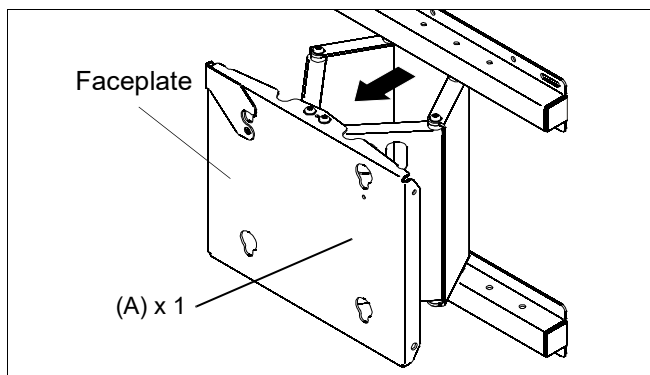

Figure 5
3. Move mount faceplate to extended position by grasping faceplate and pulling outward away from wall. (See Figure 5)